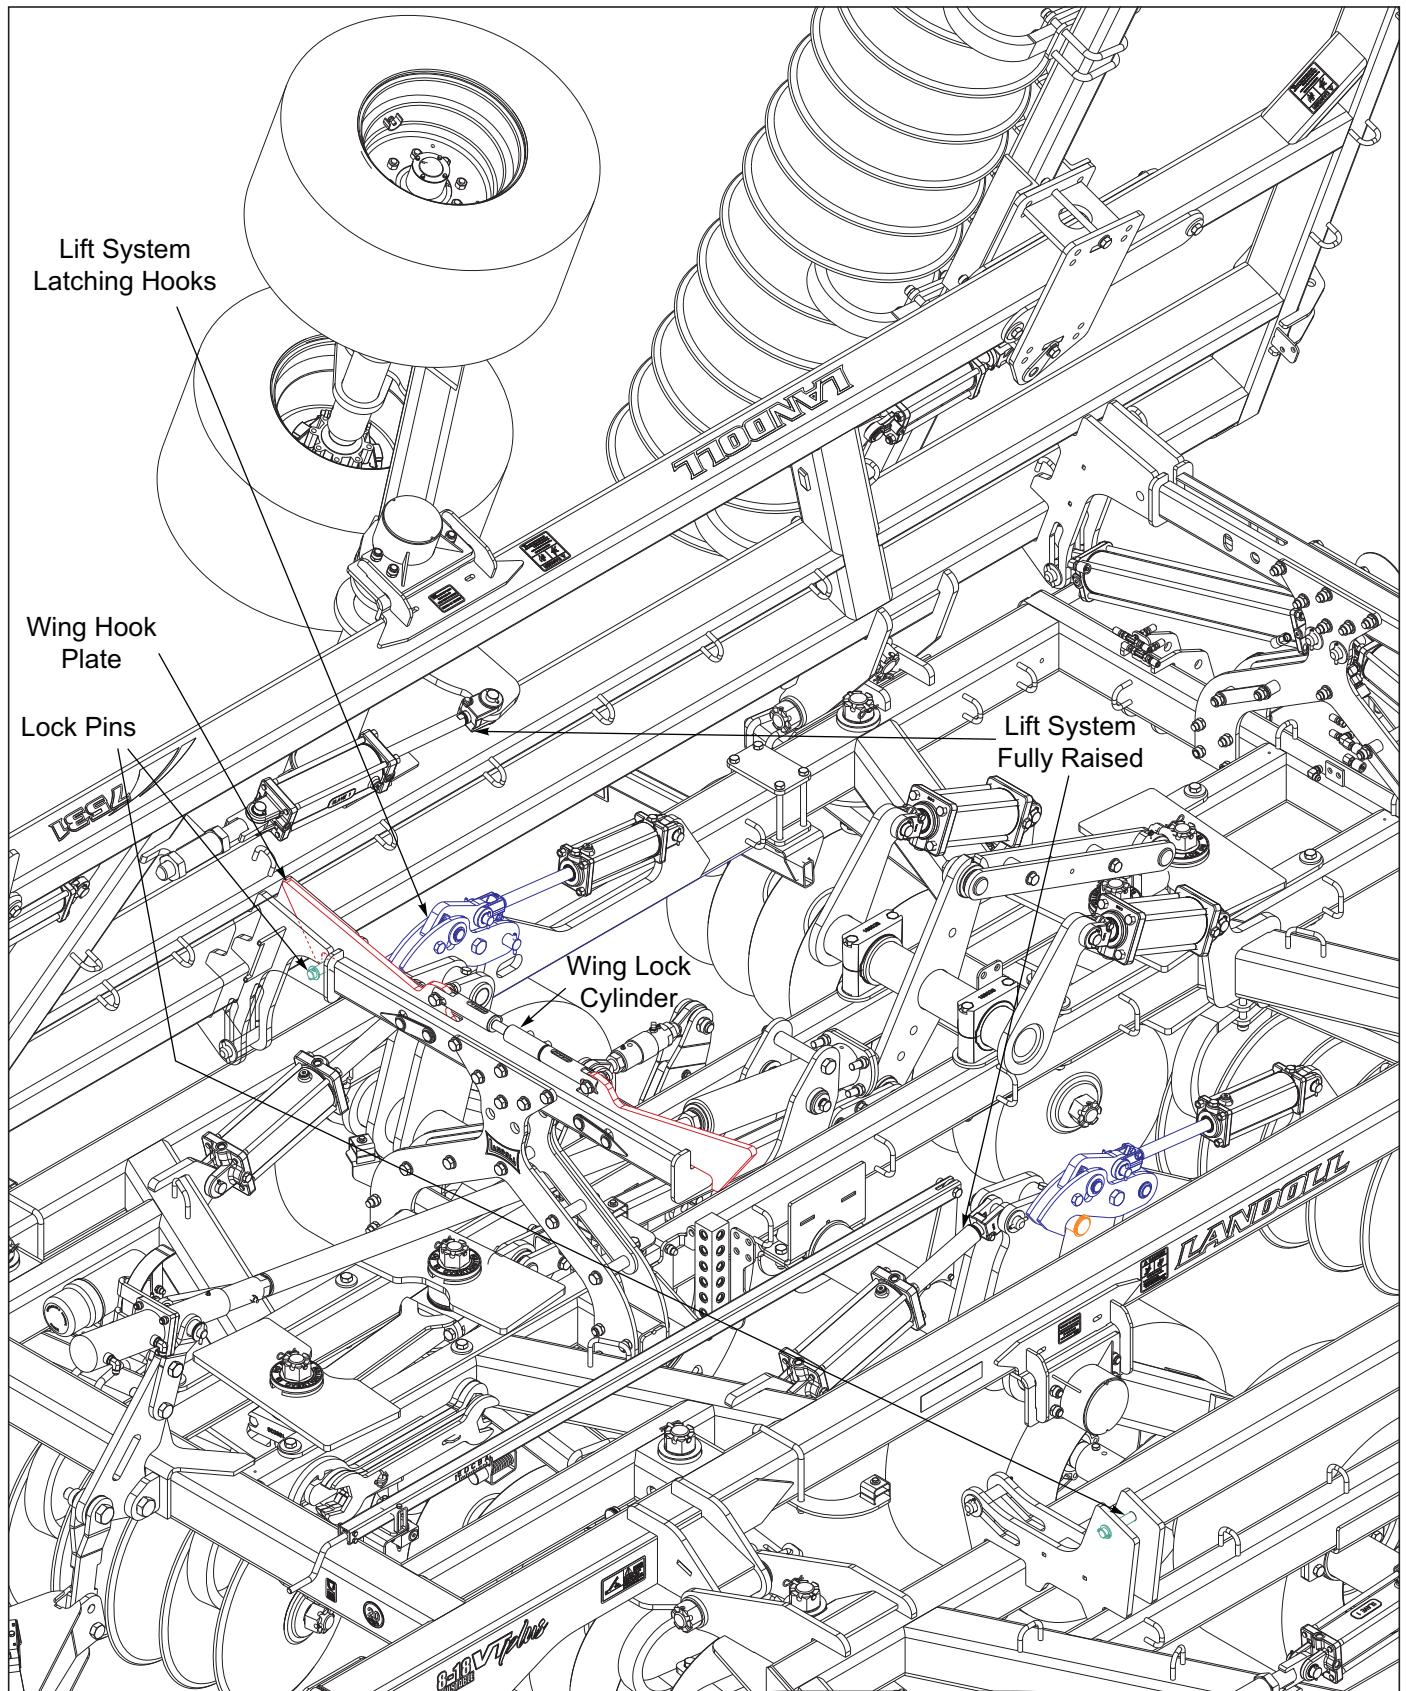

Figure 4-17: Wing Fold Transport Locks
1. Fully raise the hydraulic lift system as some settling may occur during transport *See Figure 4-17*. Unfold the wings with the hooks for the wings activating first to release them and the transport lift cylinder locks rotate to the rear to disengage. Fully extend the fold cylinders to allow the wings to flex down in the field.